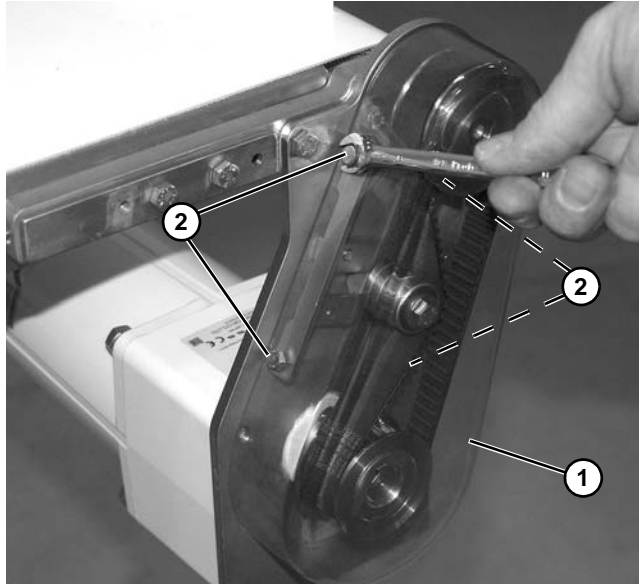

Figure 47
(Figure 47, item 2).
8. Install cover (Figure 47, item 1) and tighten four screws (Figure 47, item 2).